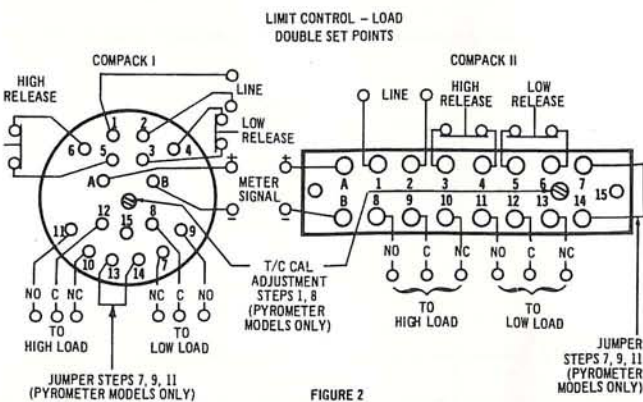

FIGURE 2
2. Limit Control: Figure 2 shows wiring for limit operation. When the black indicating pointer passes the set point, the relay will de-energize and stay de-energized until the limit release switch is opened. To start-up instruments for limit control applications, the external limit release switch must be opened while the black indicating pointer is below the high set point, above the low set point, or between the double set points.